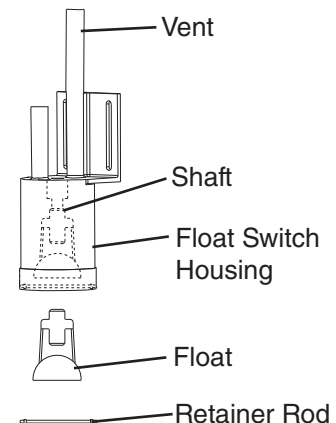

Fig. 4
- 7) Remove the retainer rod from the bottom of the float switch assembly, then remove the float. Be careful not to bend the retainer rod excessively when removing it. See Fig. 4.